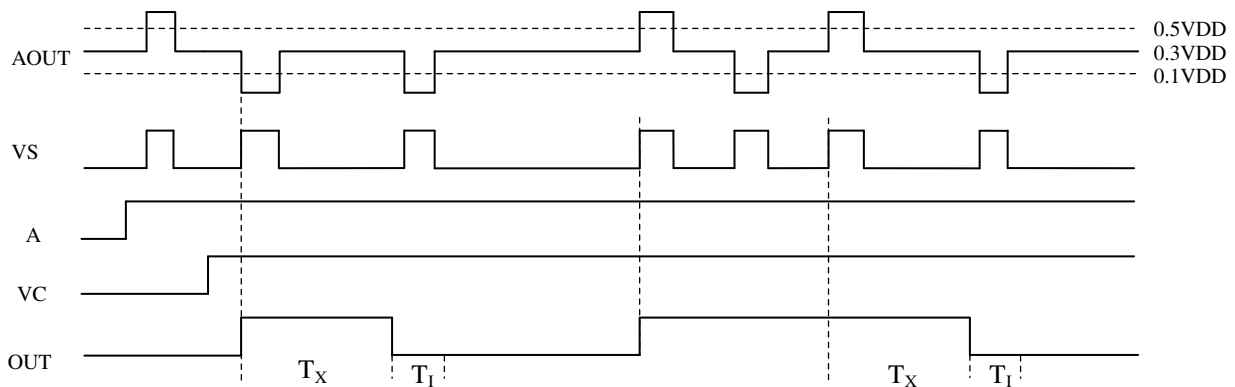

Fig4. Repetitive trigger
2. When A = VDD, operating mode is set to repetitive trigger, any changes in VS during the TX time allows the TX time to be recounted. Explanation is following by fig.4.